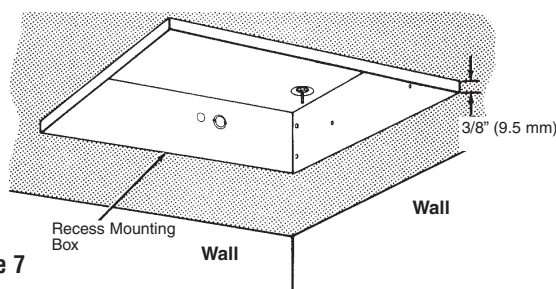

Figure 7
- Place the recess mounting box in the ceiling opening and align the marks on the sides of the mounting box with the bottom of the finished ceiling (Figure 7). This will position the edge of the mounting box 3/8” (9.5 mm) below the ceiling and will allow the recess face plate to lay flat against the ceiling.